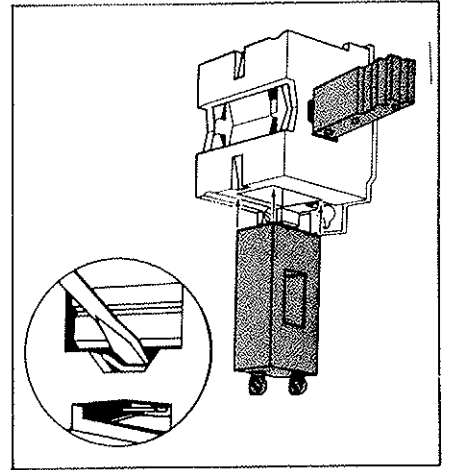

Figure 1
3. Insert a screwdriver blade between magnet and magnet retaining clip. Twist blade to force retaining clip away from magnet. Push down on screwdriver, dislodging magnet; then applying firm pressure with screwdriver, push magnet through coil to position shown in Figure 1.